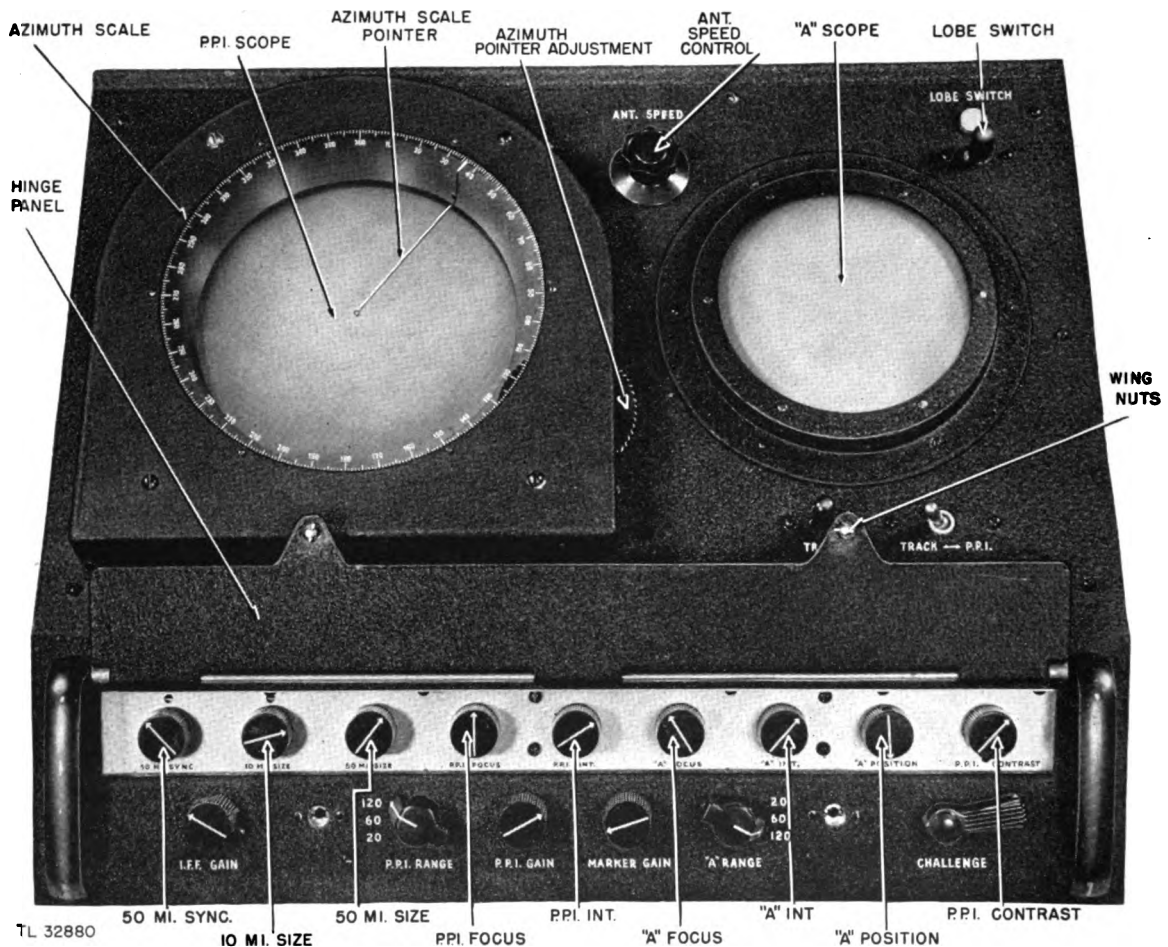

Figure 26. Indicator chassis, panel open.
presentation is not like the pictures shown, adjust the "A"-scope intensity until a horizontal sweep line appears on the "A"-scope. Next adjust the "A" FOCUS control until a sharply defined line is obtained. See figure 26.
(2) Adjust the PPI INT. control until the sweep line is visible on the PPI scope. Set the PPI FOCUS control to obtain a sharp, narrow line on the PPI scope. See figure 26.
d. *Step No. 4.* After having tuned the set, reduce the RECEIVER GAIN control until the grass on the "A"-scope (fig. 7) is just barely visible along the horizontal sweep line. The "A" FOCUS and PPI FOCUS controls (fig. 26) should be adjusted until a fine, clearly defined line, or picture, is obtained on both scopes. The "A" and PPI INT controls should
b. *Azimuth Determination.* Azimuth determination is made on the PPI scope. Near the lower right corner of the PPI escutcheon is a knurled azimuth pointer wheel (fig. 26). As this wheel is turned, a thin indicating line is rotated around the face of the PPI scope. When a target is located, this indicating line should be immediately aligned on the center of the arc representing the target. A pointer is aligned with the indicating line on the azimuth scale around the outer rim of the PPI scope. This pointer indicates the exact azimuth in number of degrees. Azimuth determination is made on the PPI scope. Range determination is best made on the "A"-scope.